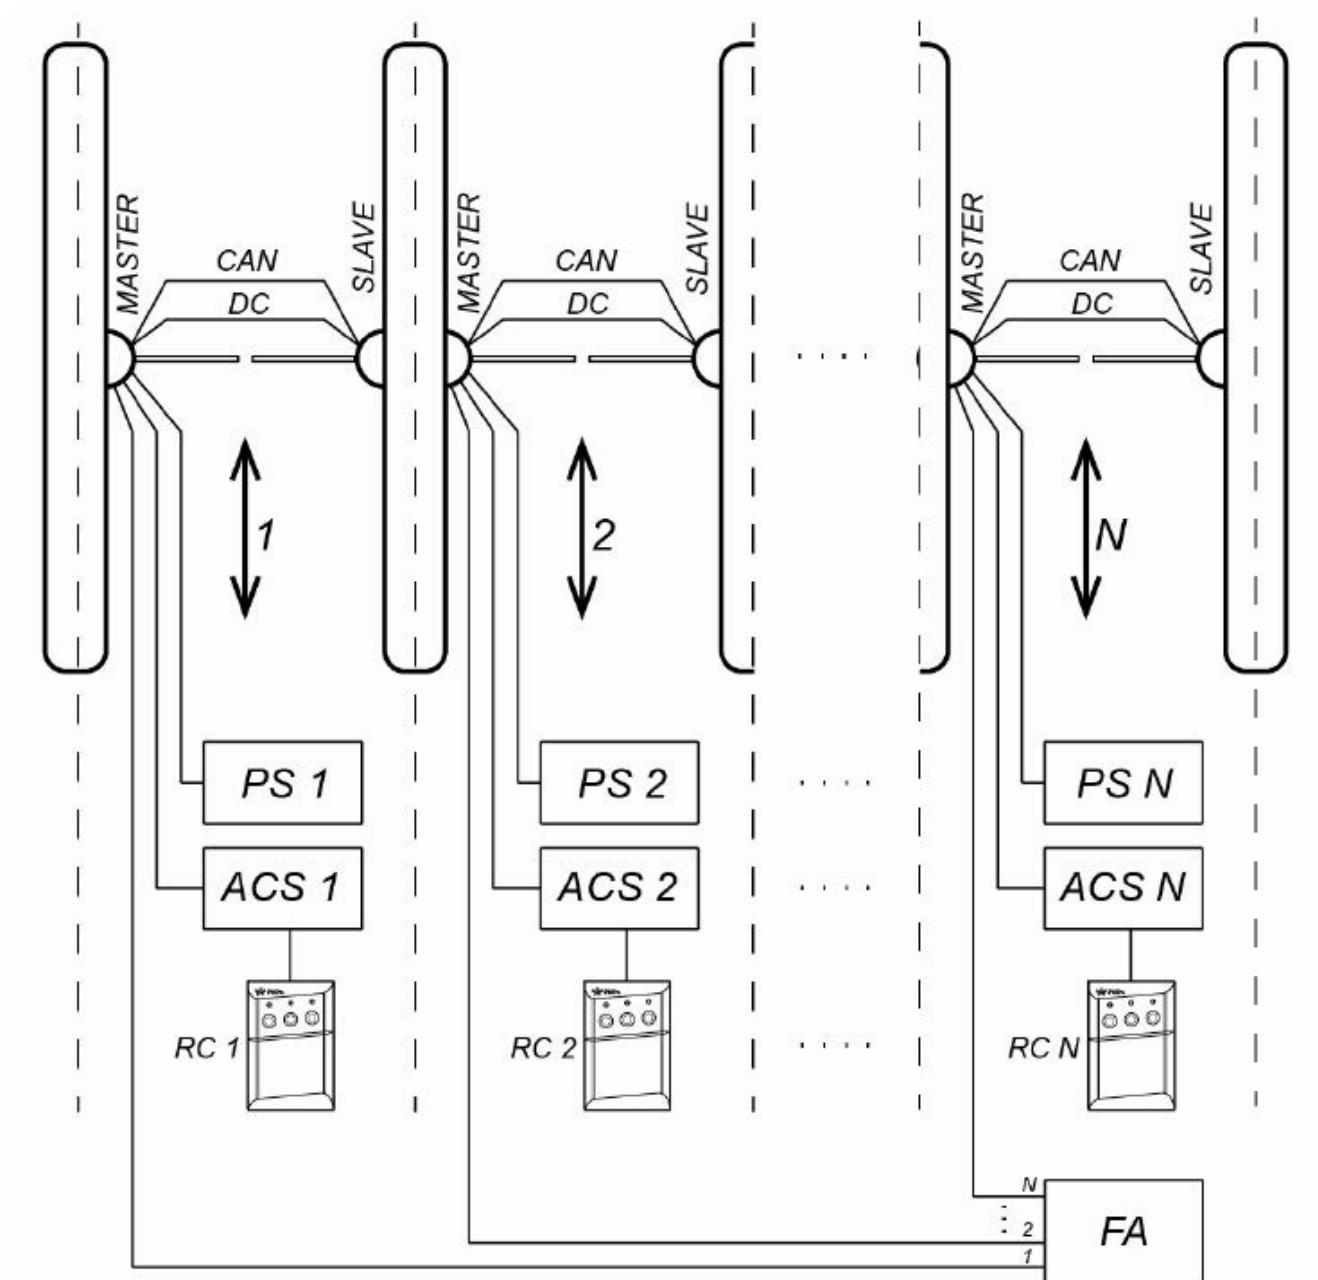
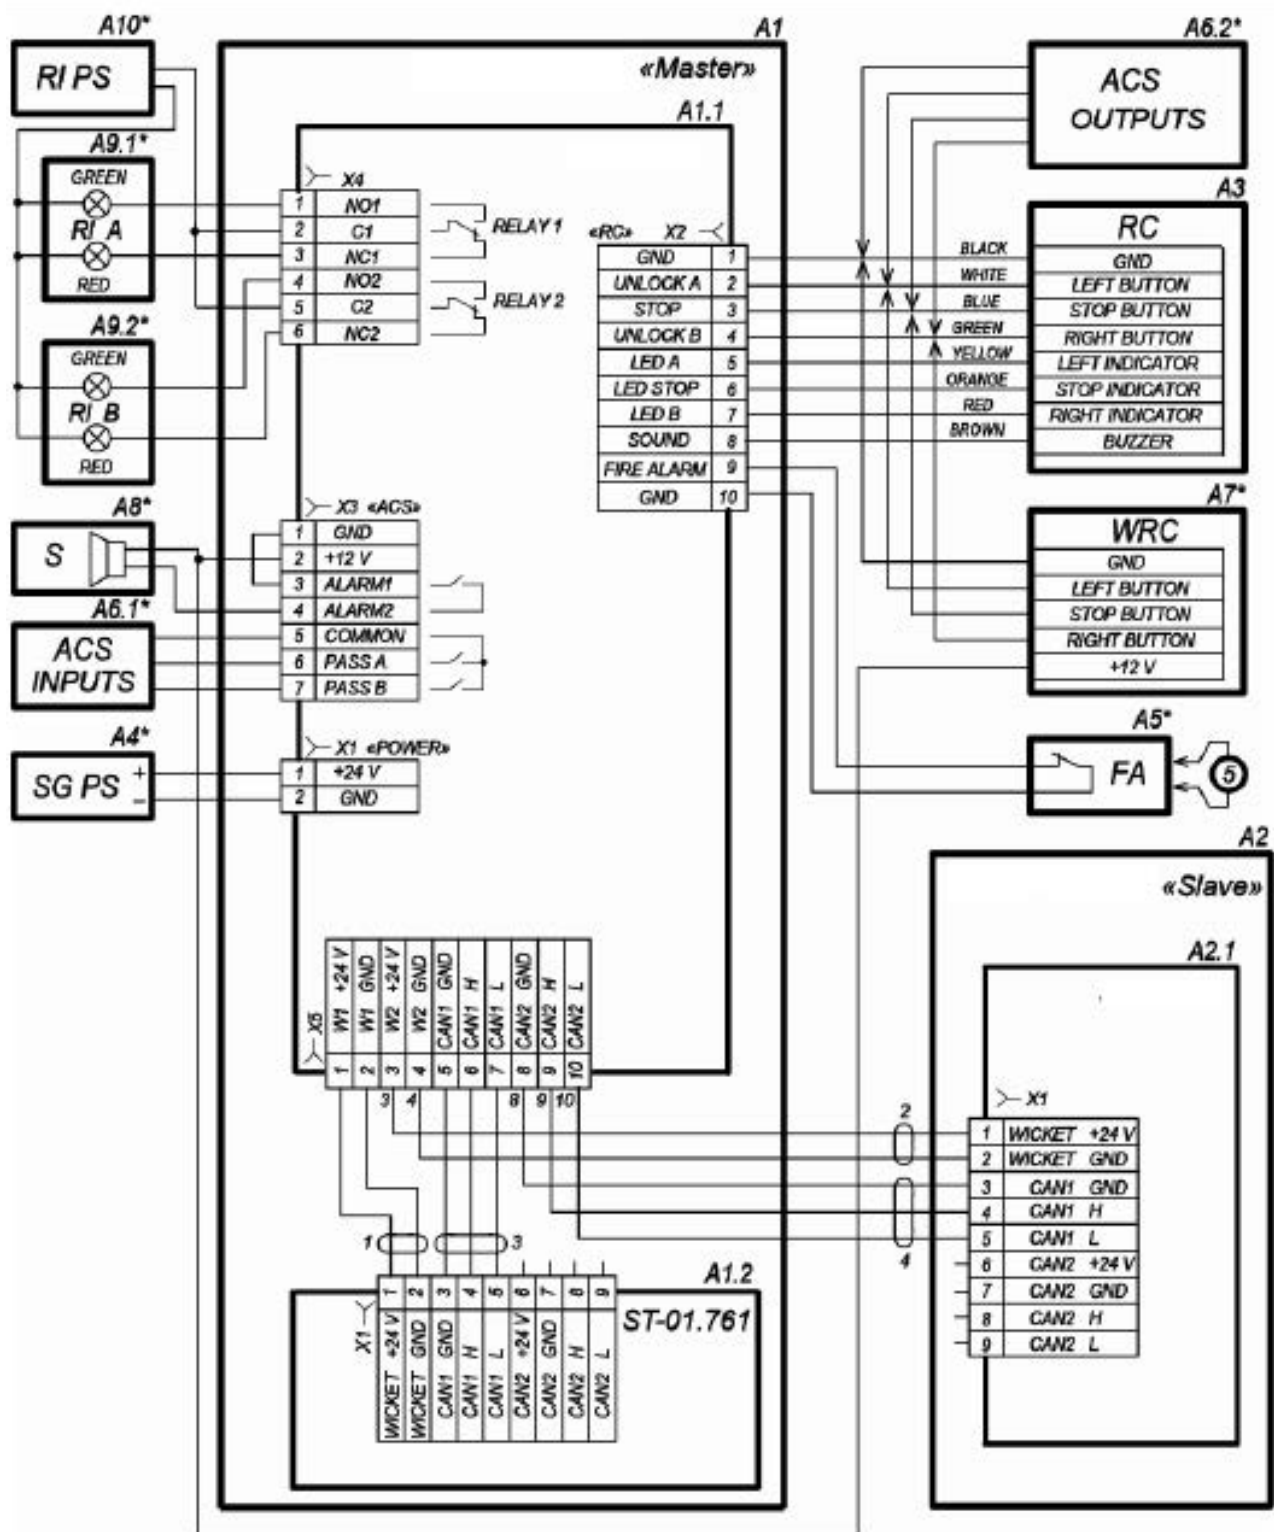

Figure 16. SdYX; UH and 8 ouble-Gided section connection layout
Figure 17. Speed gate connection layout
Speed gate connection layout is given in Fig. 17. Types of cables used are stated in Section 8.3. The example of **Speed Gate ID Gate 8500 and Double-Sided Section** connection scheme with extra passageway arrangement is depicted at Fig. 16.
In case there is no opportunity to make the cord for pulling cables with a duct, DC and CAN cables can be laid from the very beginning, before the installation of the sections. These cables are in the central post of the Slave section (sides of the section) down under the cover plate. In order to do that unpack the Slave section, take off the cover plate from the central post (Fig. 18), pull out DC and CAN cables and disconnect them from the control board with a drive control board. At each end of the wire core there are numeric markers, corresponding to the connection scheme (Fig. 17).
23. Connect the cables to the speed gate control board, which is situated at the bottom part of the central post of *Master* section according to the electrical connections scheme of the turnstiles (Fig. 8 and Fig. 17).